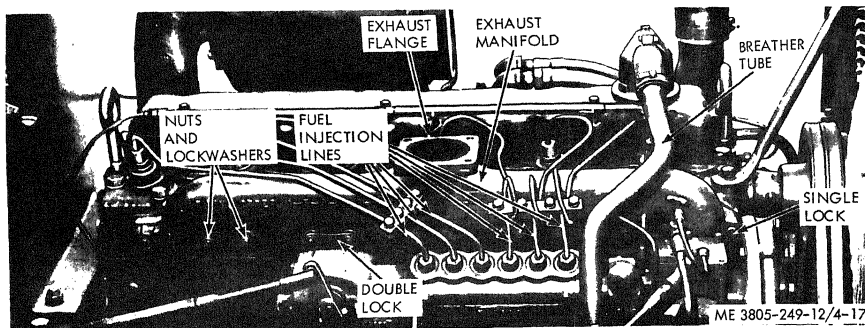

Figure 4-17. Exhaust manifold.
a. Removal. Refer to figure 4-17.
(1) Remove the muffler and exhaust pipe (para 4-23) and hood (para 4-56).
(2) Disconnect fuel injection lines. Place caps over openings and nozzles.